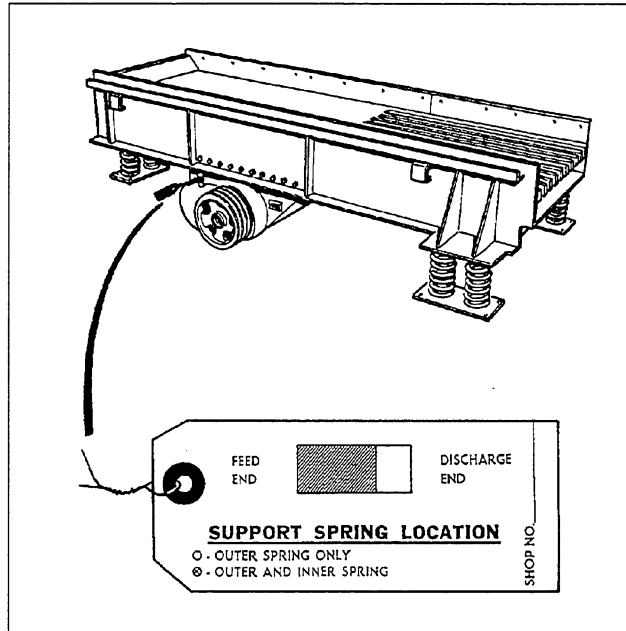

Figure 3-3. Support Spring Location Tag
3. Place support springs on spring bases. Refer to the support spring location tag (attached to the vibrating unit) for spring locations. See Figure 3-3.